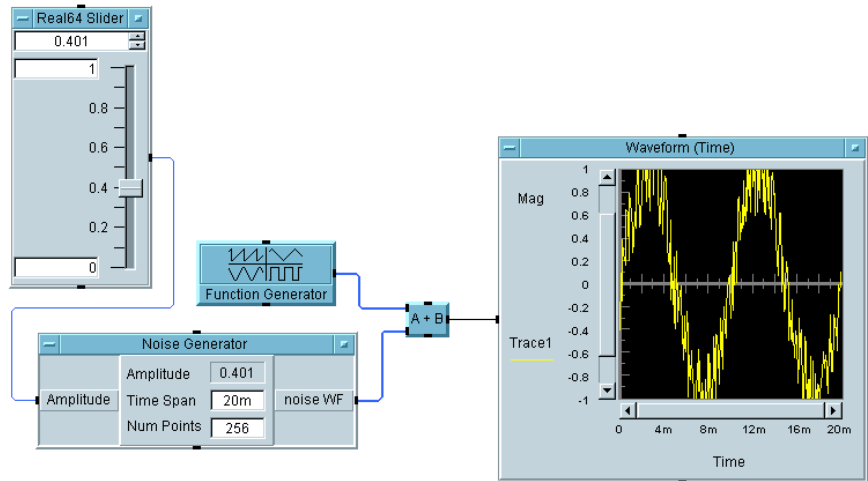

Figure 1-38. Example: Adding a Real64 Slider Object
3. Add a Real64 Slider object (Data \Rightarrow Continuous \Rightarrow Real64 Slider) and connect its data output pin to the Amplitude terminal, as shown in Figure 1-38. Run the program.